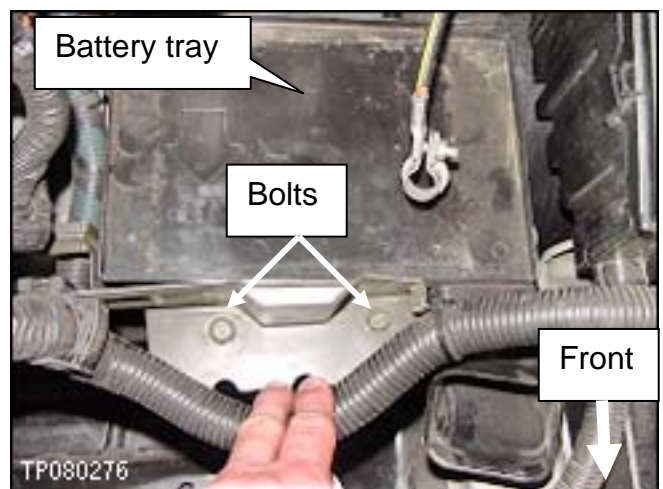

Figure 24
23. Install the 2 bolts shown in Figure 24.